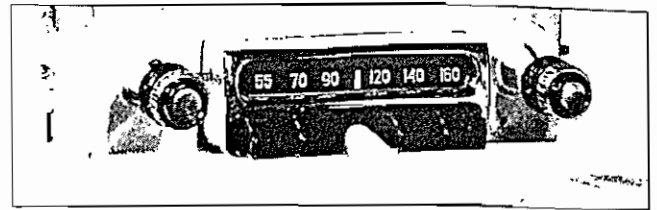

Figure 24
3. Push button in firmly to end of travel, see Figure 24. Repeat same procedure for remaining four push buttons.